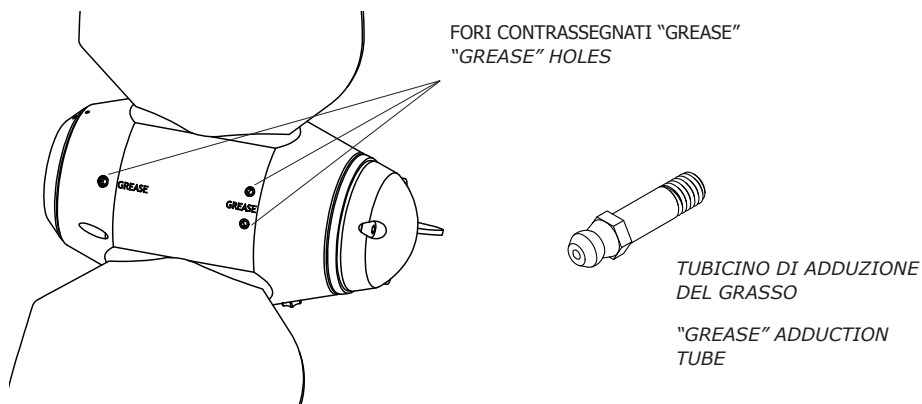

fig. 2
- d. Fill completely the propeller body with fluid grease, by using a greasing tool, through the apposite holes marked "GREASE" (Fig.2). Start from a first hole of your choice and proceed with each other hole as follows: